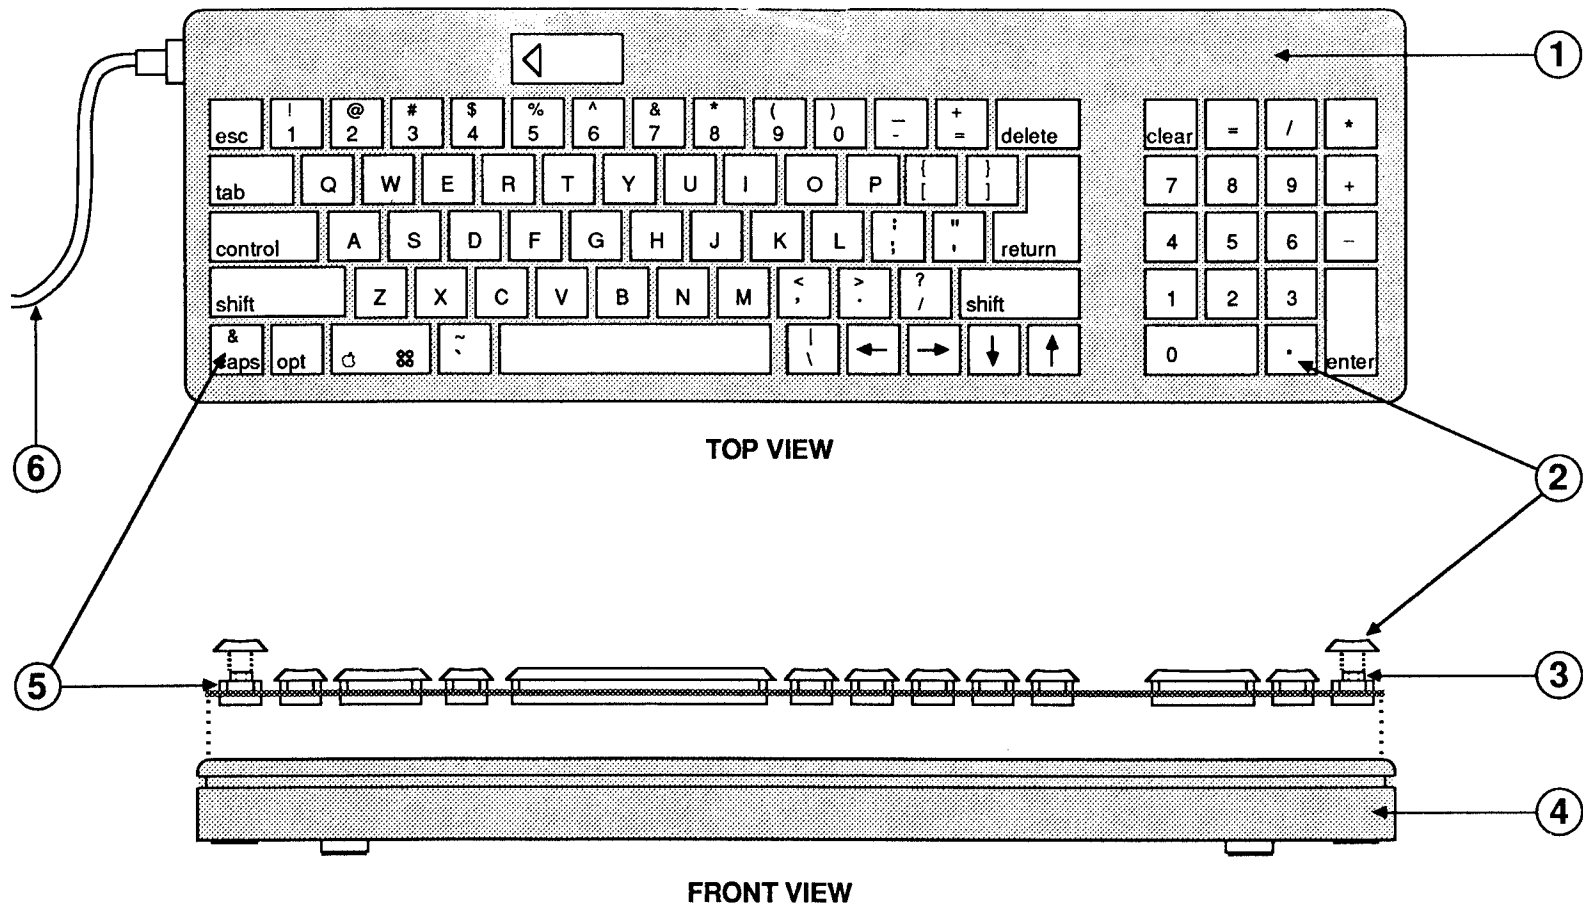

FIGURE 4
□ MACINTOSH II – KEYBOARD (Figure 4)